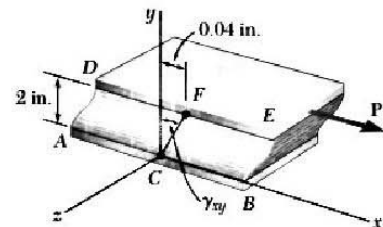

Fig. 2.48
**(a) Shearing Strain.** We select coordinate axes centered at the midpoint  $C$  of edge  $AB$  and directed as shown (Fig. 2.48). According to its definition, the shearing strain  $\gamma_{xy}$  is equal to the angle formed by the vertical and the line  $CF$  joining the midpoints of edges  $AB$  and  $DE$ . Noting that this is a very small angle and recalling that it should be expressed in radians, we write